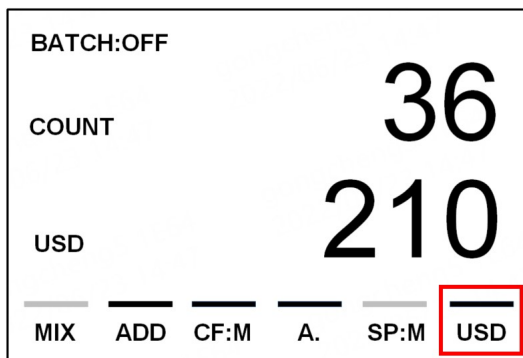

Figure 25
2) Example: Put a stack of dollars into a machine to count. The machine interface shows the end of counting as shown in Figure 25 below. The "USD" character appears in the lower right corner of the display screen.